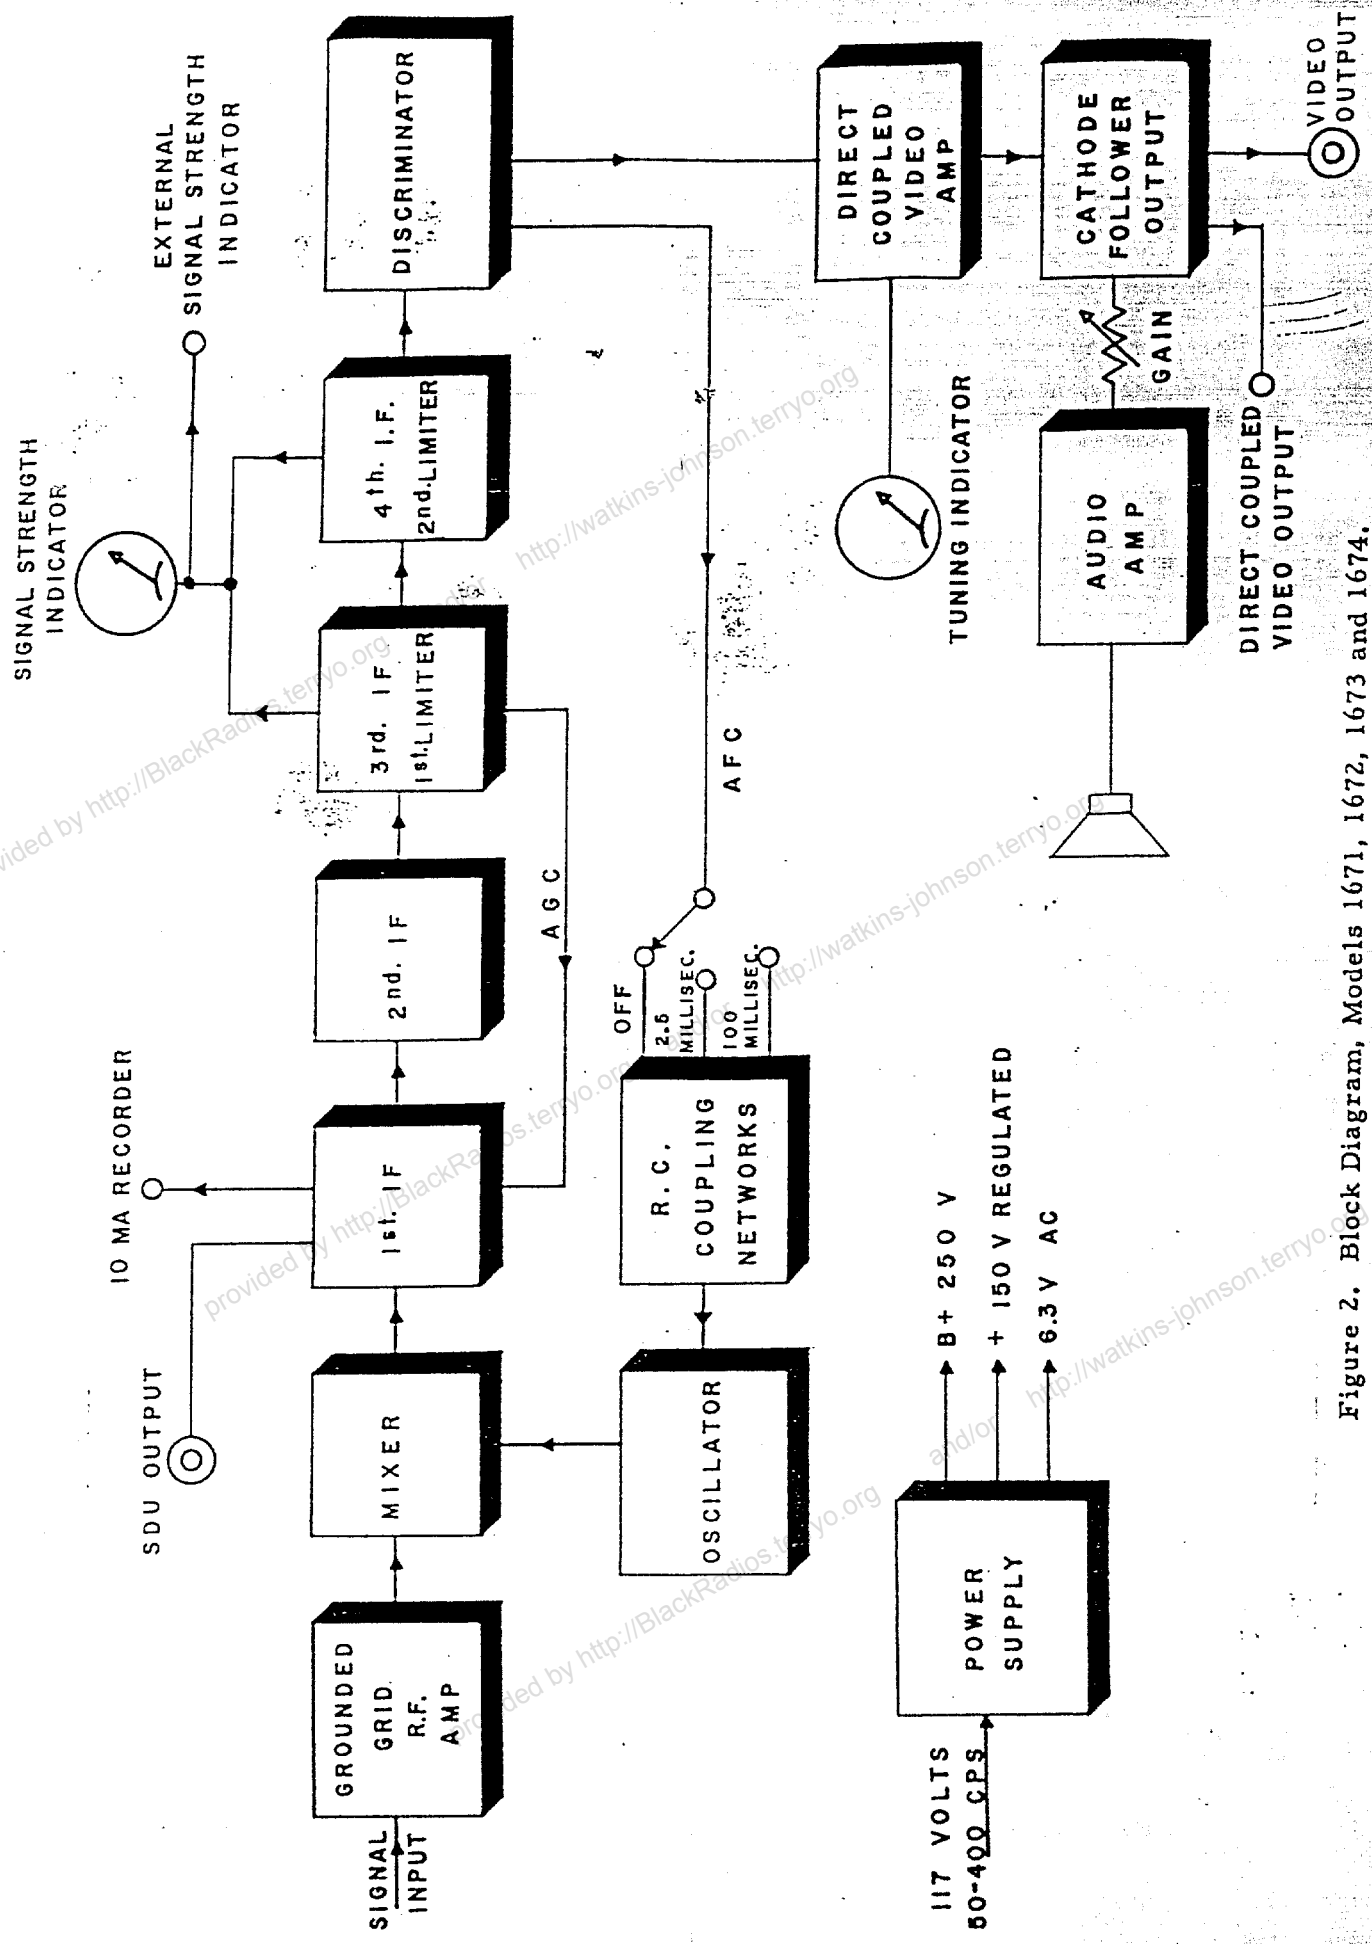

Figure 2. Block Diagram, Models 1671, 1672, 1673 and 1674.
A. A block diagram of the receivers in the 1670 line is shown in Fig. 2. The tuner is designed to produce low noise figures in the frequency range covered without resorting to special tubes with critical operating conditions. The IF amplifier consists of two stages of amplification followed by two limiters and a phase-shift discriminator. An AGC voltage obtained at the first limiter grid is applied to the first IF amplifier. This allows the first two IF amplifiers to operate in a linear fashion over the entire range of signal inputs. The output of the discriminator has a d-c component proportional to the difference between the frequency of the signal being received and that to which the receiver is tuned. If the "AFC" selector switch is in other than the "OFF" position, this voltage is applied to a reactance tube shunted across the oscillator to provide automatic frequency control. Thus, with this circuit in operation the effective drift in frequency of either transmitter or receiver is reduced. The composite discriminator output which contains the video output is amplified by a direct-coupled amplifier. A direct-coupled output and a capacitively coupled output are provided on the rear apron of the receiver.